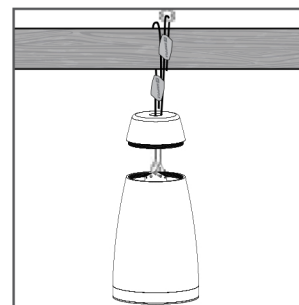

FIGURE 8: SECONDARY SUPPORT
5. Snap secondary support safety cable hook hanger onto one of the side holes in the top bracket of the speaker, and attach the top to a different ceiling support point of the building structure, per Steps 1 & 2. (See figure 8).